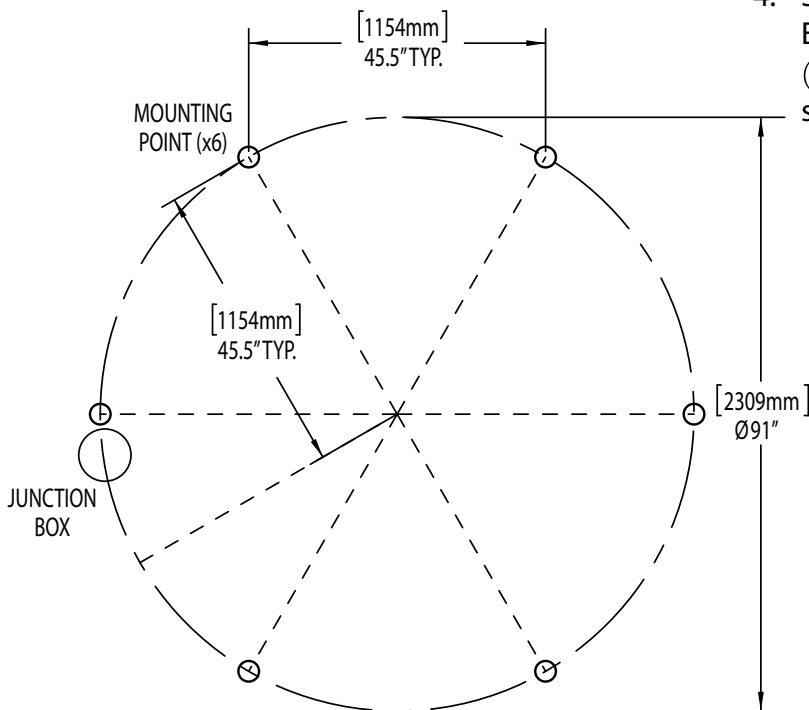

FIG 1
- Using fig 1 as a guide, mount the couplers (x6) to the ceiling using appropriate fasteners (not included) according to the structure of the ceiling